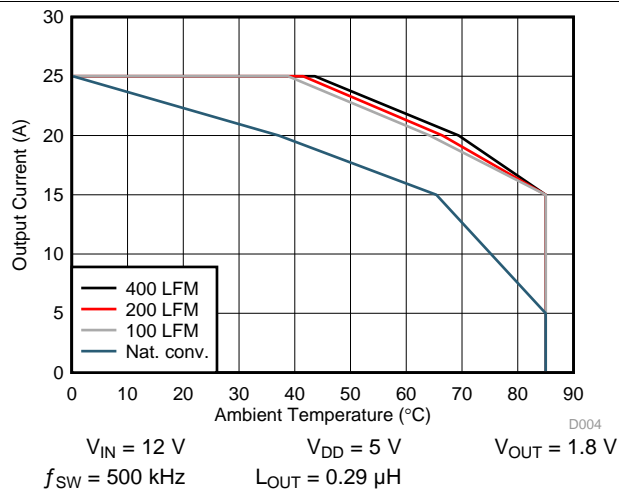
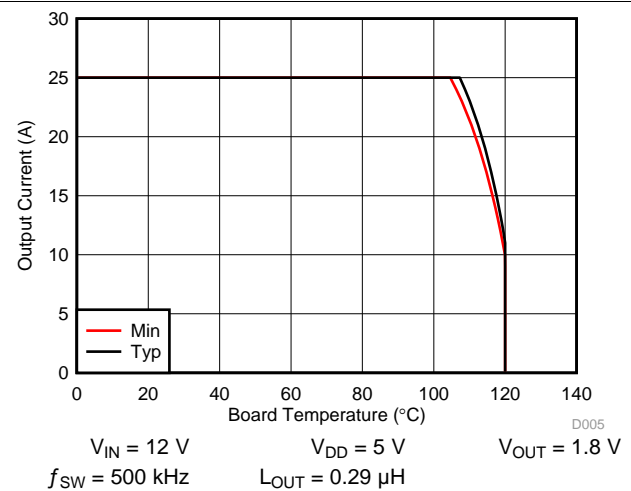

Figure 6. Safe Operating Area – PCB Horizontal Mount (1)
Figure 7. Typical Safe Operating Area (1)
The SOA curves in the CSD97395Q4M datasheet give engineers guidance on the temperature boundaries within an operating system by incorporating the thermal resistance and system power loss. Figure 6 and Figure 7 outline the temperature and airflow conditions required for a given load current. The area under the curve dictates the safe operating area. All the curves are based on measurements made on a PCB design with dimensions of 4.0 inches (W) × 3.5 inches (L) × 0.062 inch (T) and 6 copper layers of 1 oz. copper thickness.